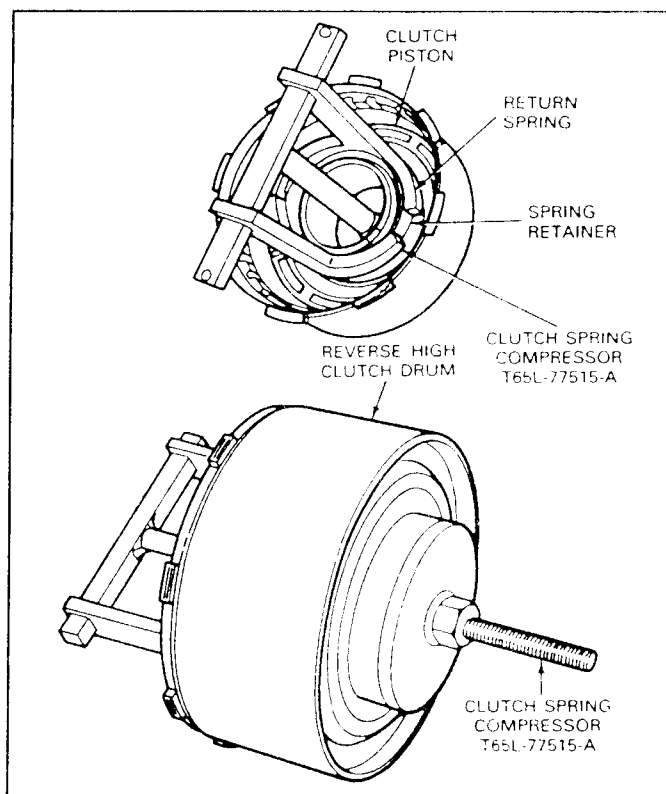

FIG. 41 Removing or Installing Reverse—High Clutch Piston Snap Ring
3. Install Clutch Spring Compressor, Tool T65L-77515-A (Fig. 41) on the reverse-high clutch drum. Make sure that the legs clear the snap ring enough to remove it. Remove the snap ring and remove the tool.
5. Install Clutch Spring Compressor, Tool T65L-77515-A (Fig. 41) and compress the springs. Make certain that the spring retainer is centered while compressing the springs. Install the snap ring. **Before releasing the pressure on the tool, make certain that the snap ring is positioned**